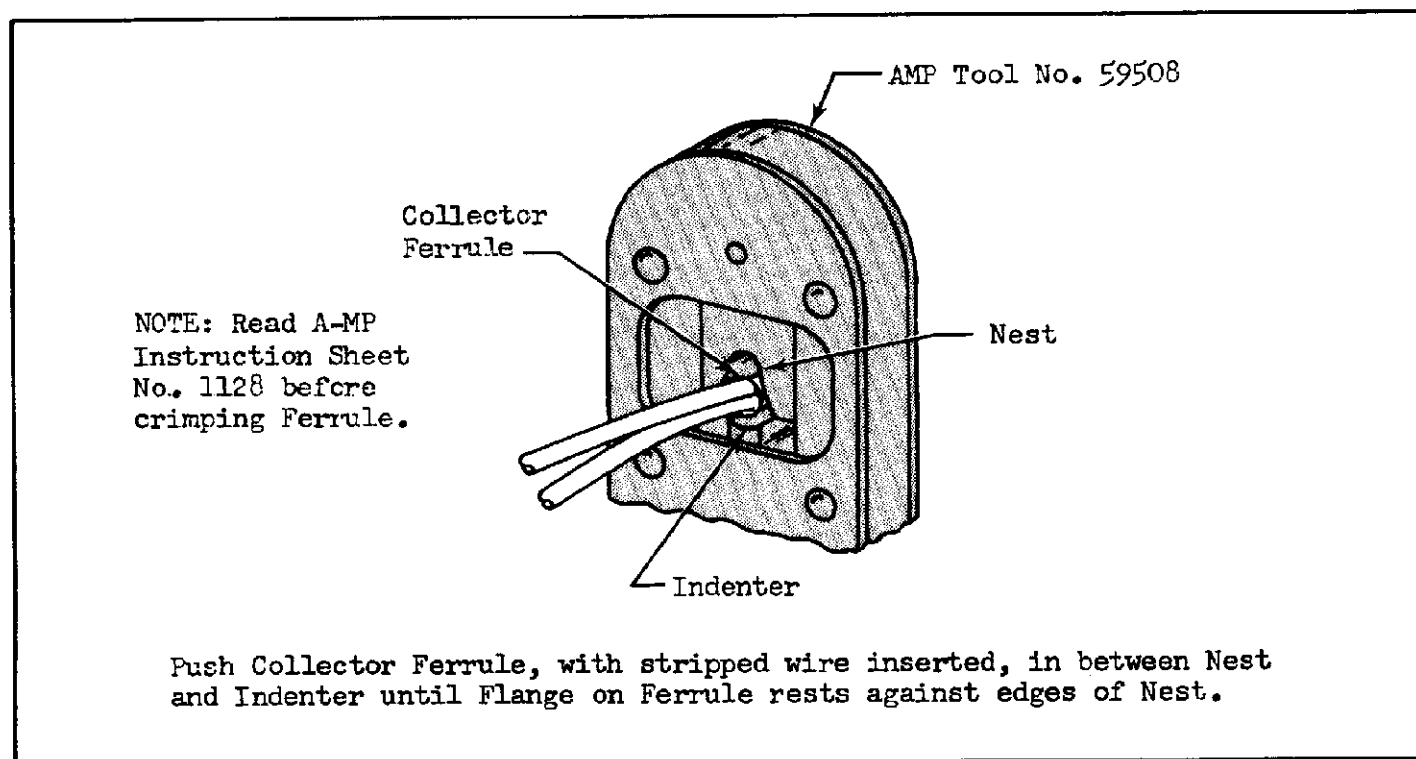

FIG. 4
- (a) Crimp the Collector Ferrule as shown in Figure 4.